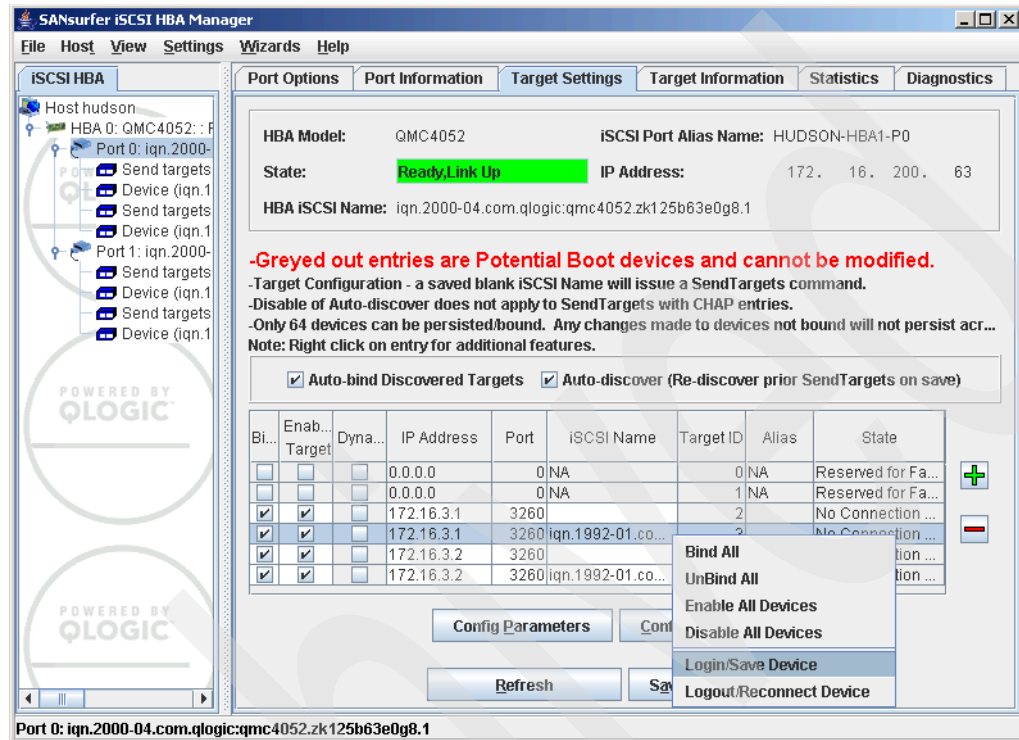

Figure 21-66 SANsurfer - Login into iSCSI target
11. After configuring the authentication settings on the DS3300 and the HBA, a login to each target can be performed. In SANsurfer, select the first iSCSI port of the HBA. On the Target Settings tab, right-click a line that contains an IQN. From the context menu, select **Login/Save Device** (Figure 21-66). This will establish a new iSCSI session with the target using the new security settings.